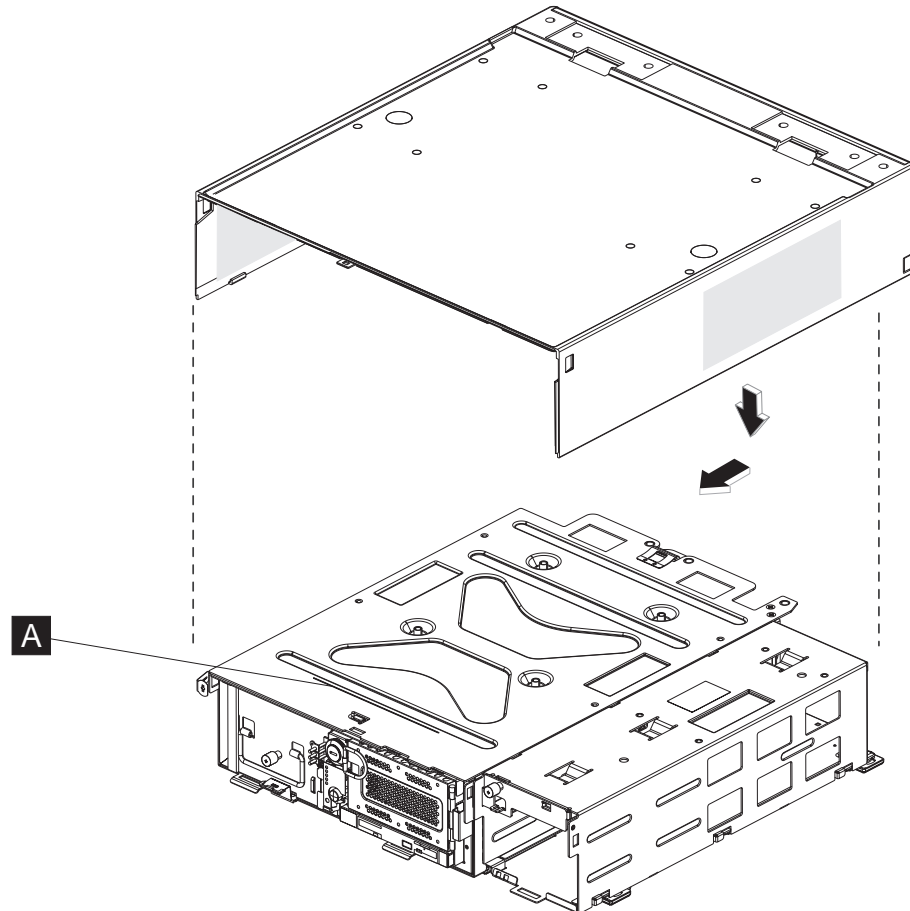

Figure 19. Installing the top cover
1. Place the top cover in position over the system unit so that the front edge aligns with the line imprinted on the top plate ( **A** in Figure 19).